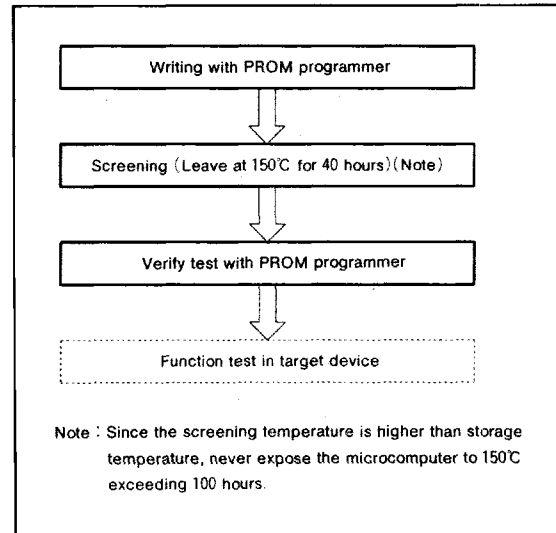

Fig. 55 Flow of writing and testing for products shipped in blank
(2) Notes on handling
- ① Sunlight and fluorescent lamp contain light that can erase written information. Be sure to cover the transparent glass portion with a seal or other similar materials except when erasing.
- ② Mitsubishi Electric corp. provides the seal for covering the transparent glass. Take care that the seal does not touch the lead pins.
- ③ Clean the transparent glass before erasing. Fingers' fat and paste disturb the passage of ultraviolet light and may affect badly the erasure capability.
- ④ A high voltage is used for writing. Take care that overvoltage is not applied. Take care especially at turning on the power.
- ⑤ For the One Time PROM version shipped in blank, Mitsubishi Electric corp. does not perform PROM writing test and screening in the assembly process and following processes. In order to improve reliability after writing, performing writing and test according to the flow shown in Fig. 55 before using is recommended. (Products shipped in blank : PROM contents is not written in factory when shipped)